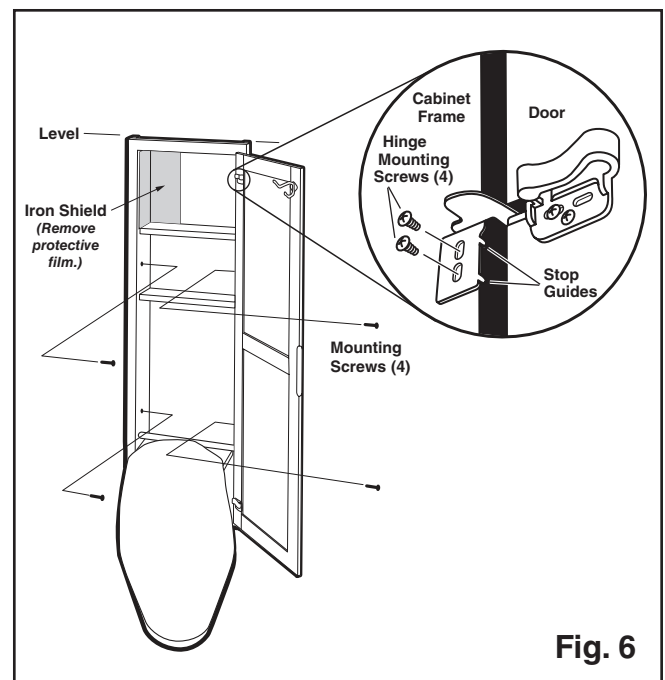

Fig. 6
7. Install cabinet into wall opening. (Fig. 6)
8. Attach door to cabinet. (Fig. 6)